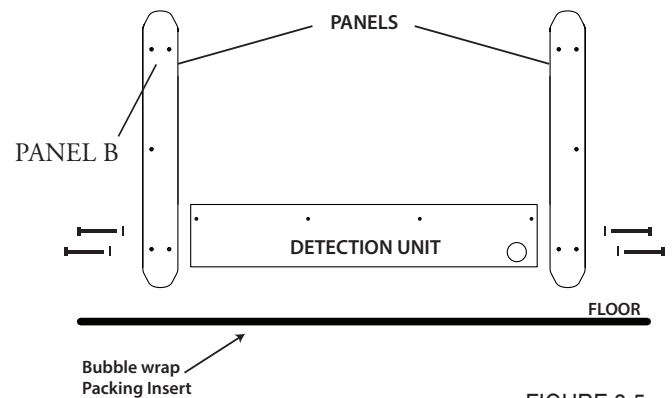

FIGURE 3-5
3. Place the packing insert on floor as shown in Figure 3-5. Lay detection unit (with keypad panel facing down) on packing insert. Place the panels as shown with Panel A (no MOT 1000 sensor) on the left side. Make sure the lip on